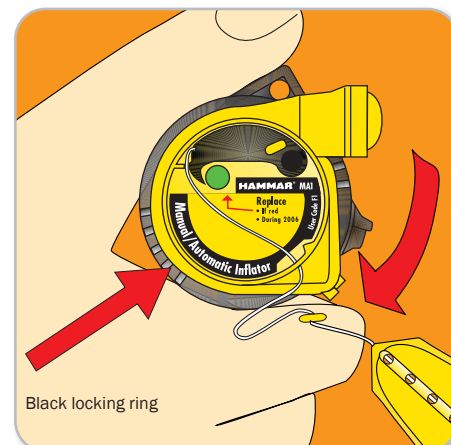

Figure 11
8. While pressing FIRMLY onto the inflator body turn the BLACK locking ring clockwise into the locked position. Pull on the cap to make sure it has locked onto the inflator body. (Figure 11)